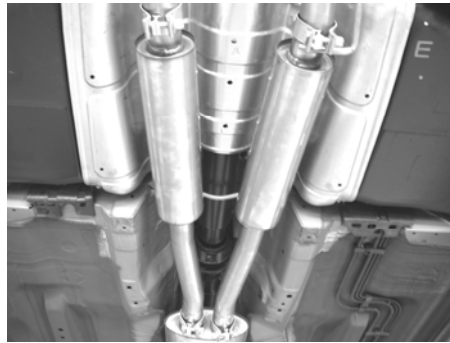

Figure 4
2. Place a clamp over the expanded end of both left and right mid muffler assembly and set them into position as shown in figure 4 making sure to install the hanger located on the right mid muffler assembly into the rubber bracket. DO NOT tighten the clamps.